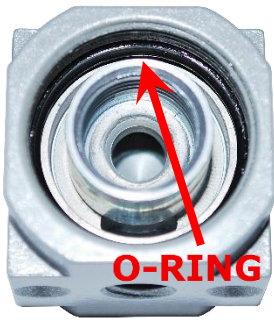

FIGURE 14
- 21) If the vacuum filter has been recently serviced, verify that the O-ring, **FIGURE 14**, located between the filter bowl and body is not pinched or damaged and properly lubricated and seated.
A leak in the filter may be caused by damage to the filter bowl's O-ring (shown in **FIGURE 14**), or the drain plug was used and now has contamination on its sealing ring.
Check the filter bowl O-ring (**FIGURE 14**) for damage. The O-ring should be lightly lubricated to keep it from pinching when installed in the bowl; if needed (and the O-ring does not appear to be damaged) apply a thin film of rubber compatible grease to the O-ring. Examine the sealing ridge of the filter bowl for any indication of scratches or contamination along the upper edge that contacts the O-ring. If the O-ring or bowl are damaged replace the filter.